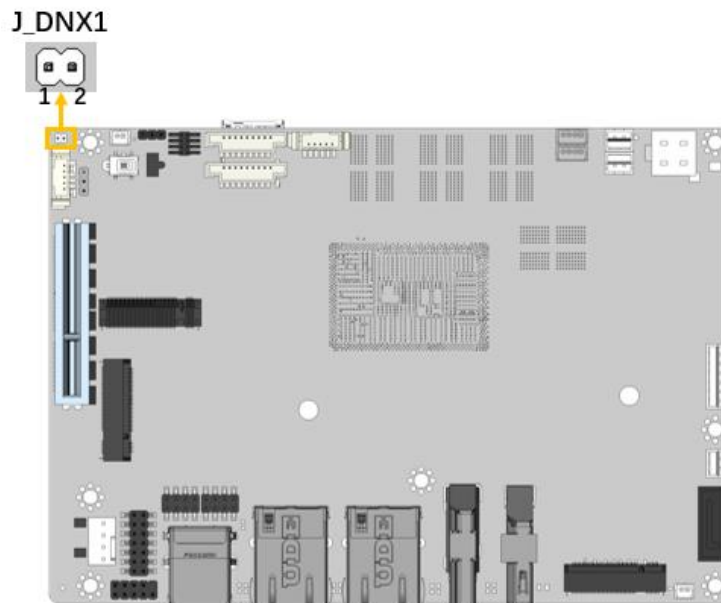

Figure 3-4: DNX Mode Setting Jumper Location
- CN Location:** See **Figure 3-4**